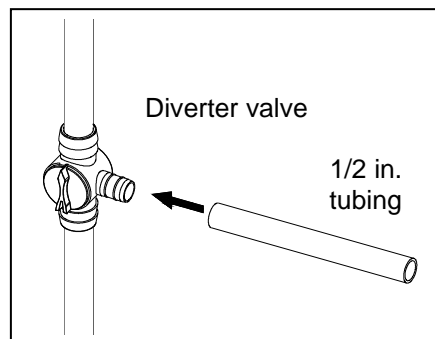

Fig. 10
10. For 1/2 in. tubing, connect the tubing onto the second output of the diverter. Connect the other end of the tubing to a spitter or other water feature. Fig. 10